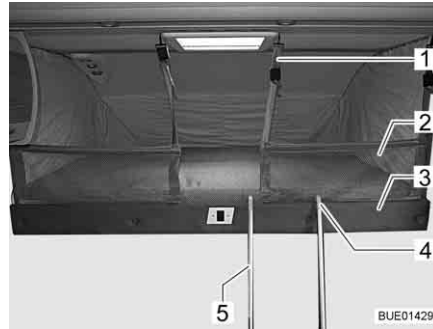

Fig. 125 Pull-down bed complete with applied safety net
Safety net If fitted, the safety net (Fig. 125,2) and the retaining belts are located beneath the mattress of the pull-down bed. Only use the safety net if persons are already in the pull-down bed.
Setting up: ■ Attach retaining belts (Fig. 125,1) to the hooks on the ceiling.
- Hook step ladder (Fig. 125,5) to the pull-down bed by attaching the two hooks (Fig. 125,4) in the holding bar (Fig. 125,3).